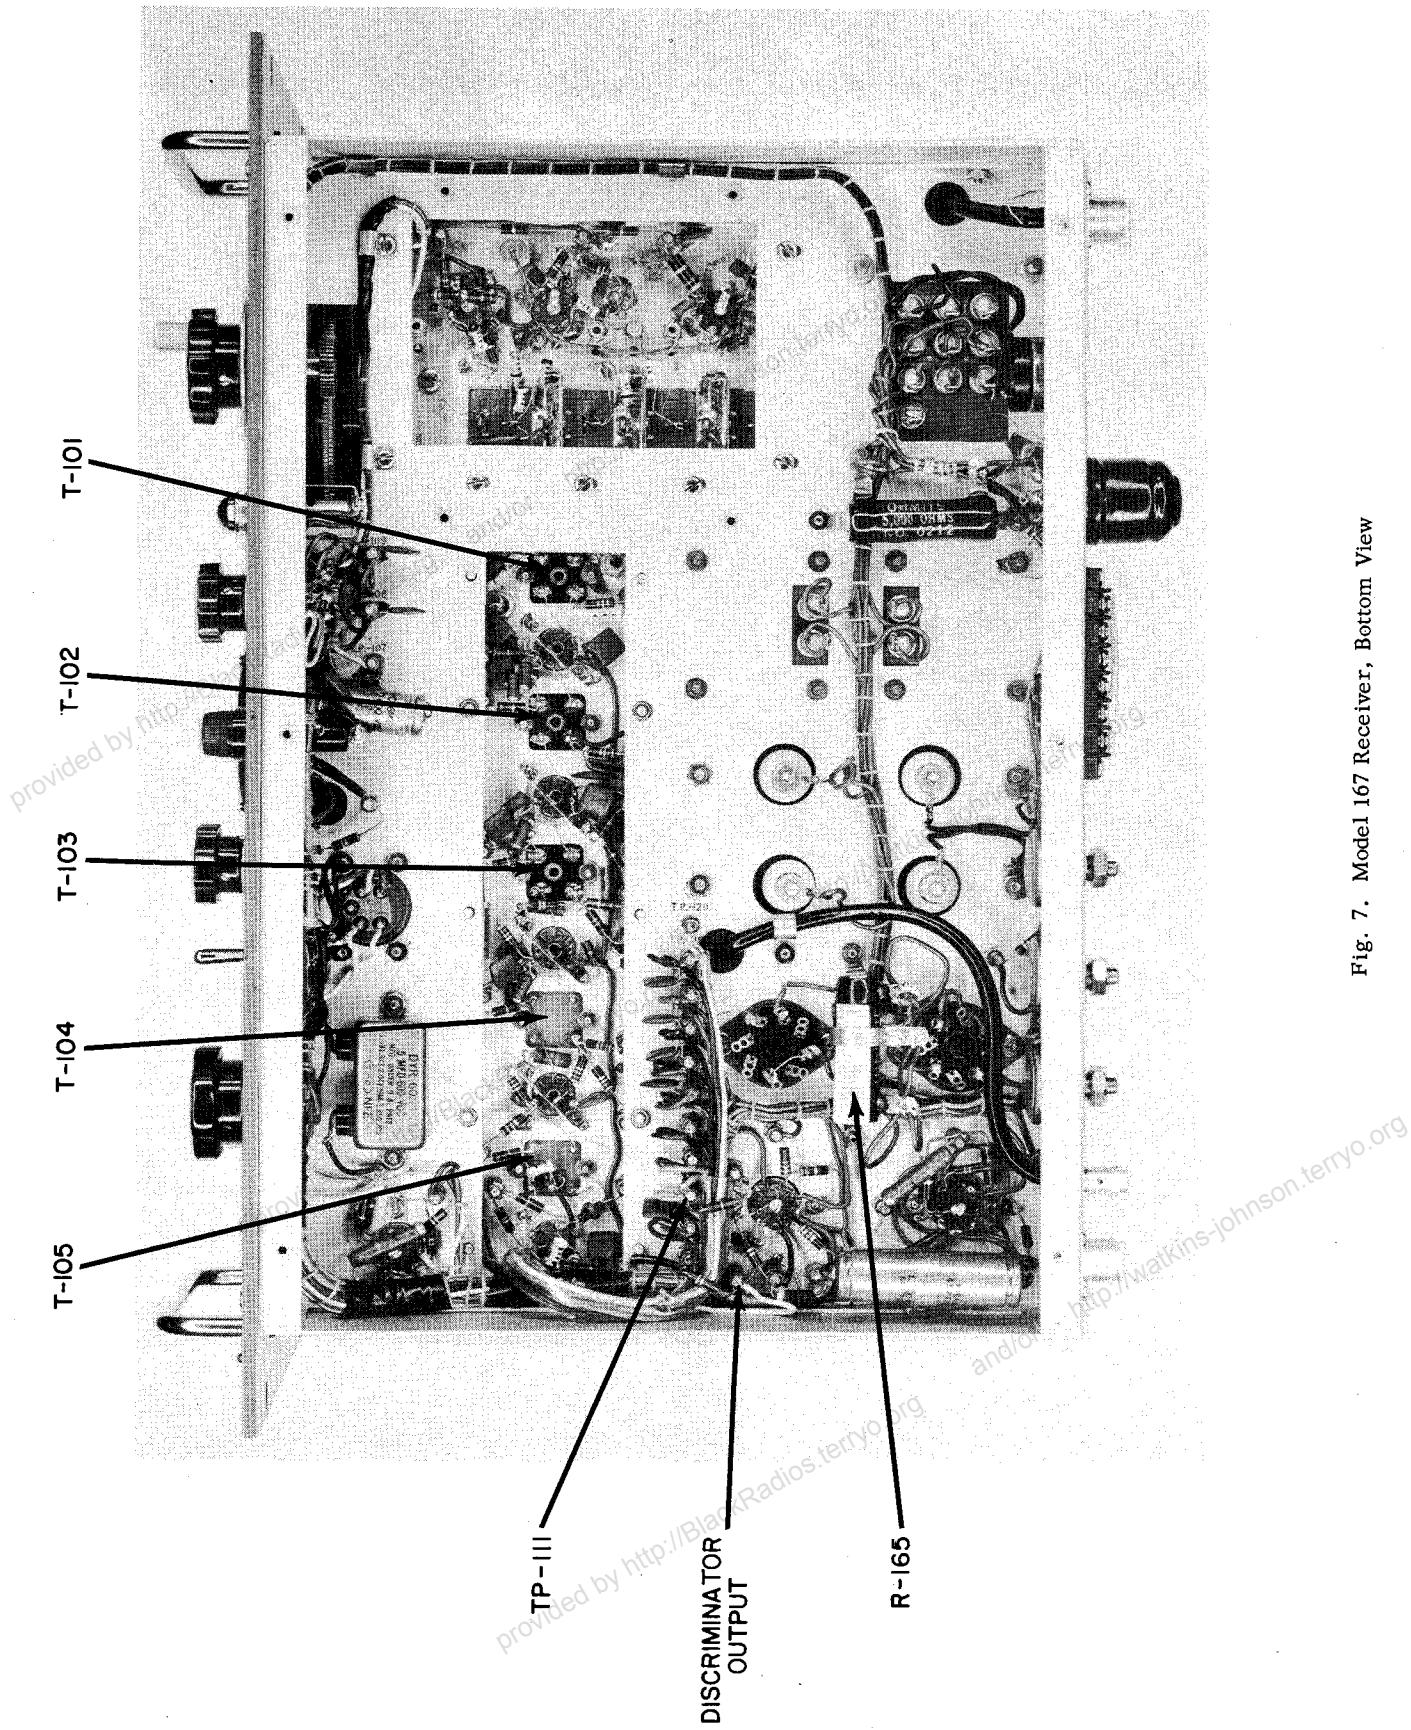

Fig. 7. Model 167 Receiver, Bottom View
- (1) Remove V-105.
- (2) Set the signal generator to 21.4 mc and connect to pin 1 of V-106.
- (3) Connect a high-resistance d.c. voltmeter (VTVM) to the second limiter grid return (TP-111).
- (4) Set the signal generator output to produce the following approximate value on the VTVM:
- (5) Reconnect the VTVM to the discriminator output lead (See Fig. 7).
- (2) Connect the sweep generator to pin 1 of V-106.
- (3) Connect the oscilloscope to the discriminator output lead (see Fig. 7).
- (4) Adjust the primary and secondary slugs of T-105 for maximum symmetrical output around a 21.4-mc center frequency. The peak-to-peak separation should be 750 kc.